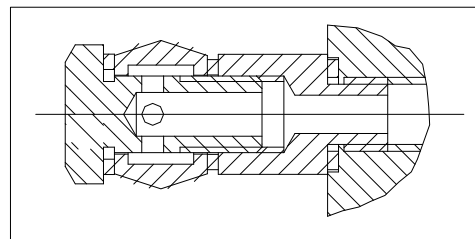

Fig.40
6. Connect the long hose inside both columns according to fig.40, tighten (upside connect to main column and the down side connect with sub-column), and then fix the oil pipe by using clip.
2. Connect the hydraulic unit to the circuit crossing with a flexible pipe(Fig.40).